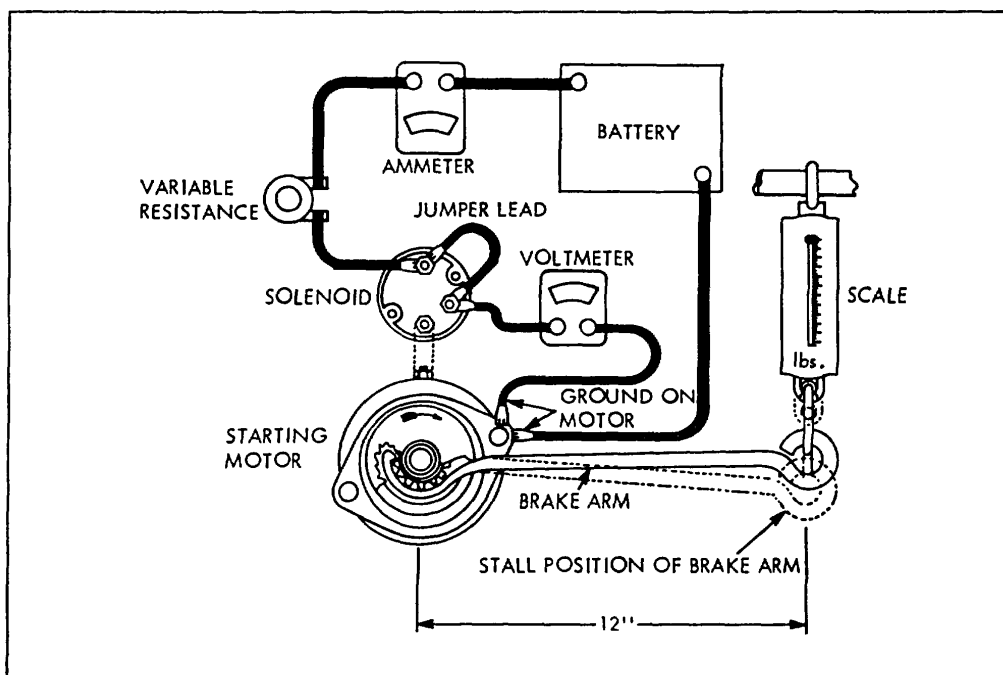

Figure 7-6. Starter Stall Current and Torque Test Setup
1. Connect starting motor assembly to test circuit (figure 7-6).